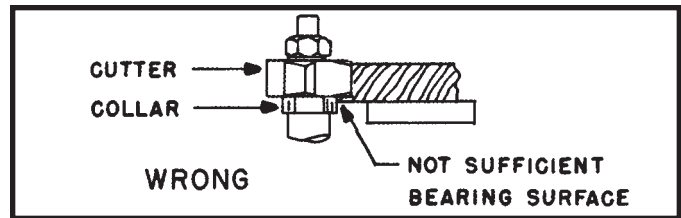
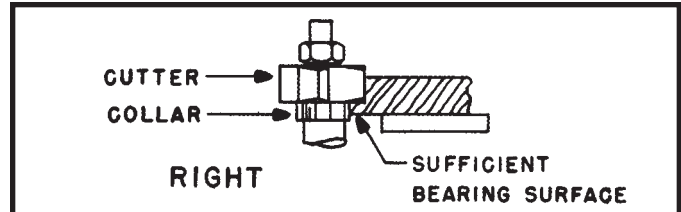

Fig. 60
Fig. 61
3. A portion of the edge of the work **MUST** remain untouched by the cutters in order that the collar will have sufficient bearing surface. Fig. 60, illustrates the **wrong way** for the operation, while Fig. 61 illustrates the **right way**.